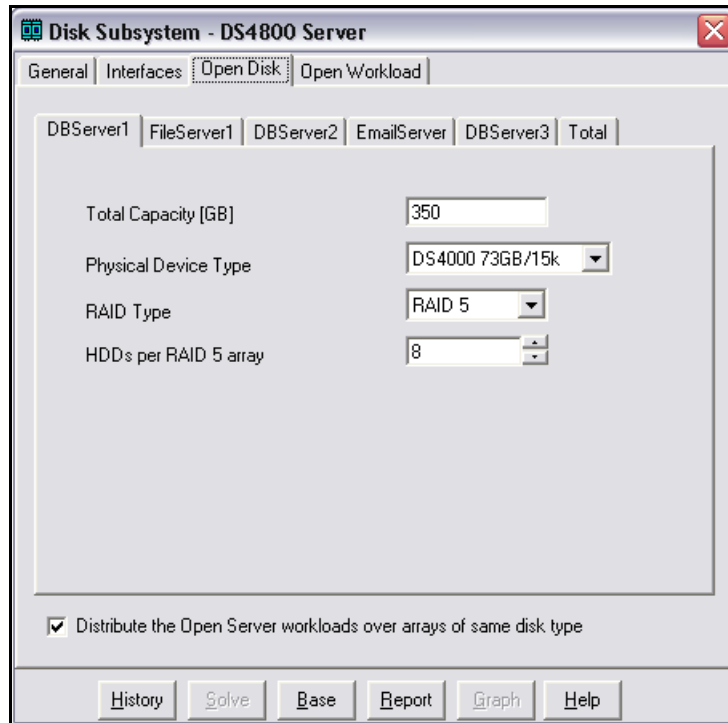

Figure 8-11 Set the disk size, number of disks, and RAID level
- The Open Disk page, shown in Figure 8-11, is used to describe the physical disk and logical drive (LUN) configuration for each host.
As you can see in Figure 8-11, Disk Magic creates a tab in the Open Disk page for each open server that has been defined in the model.